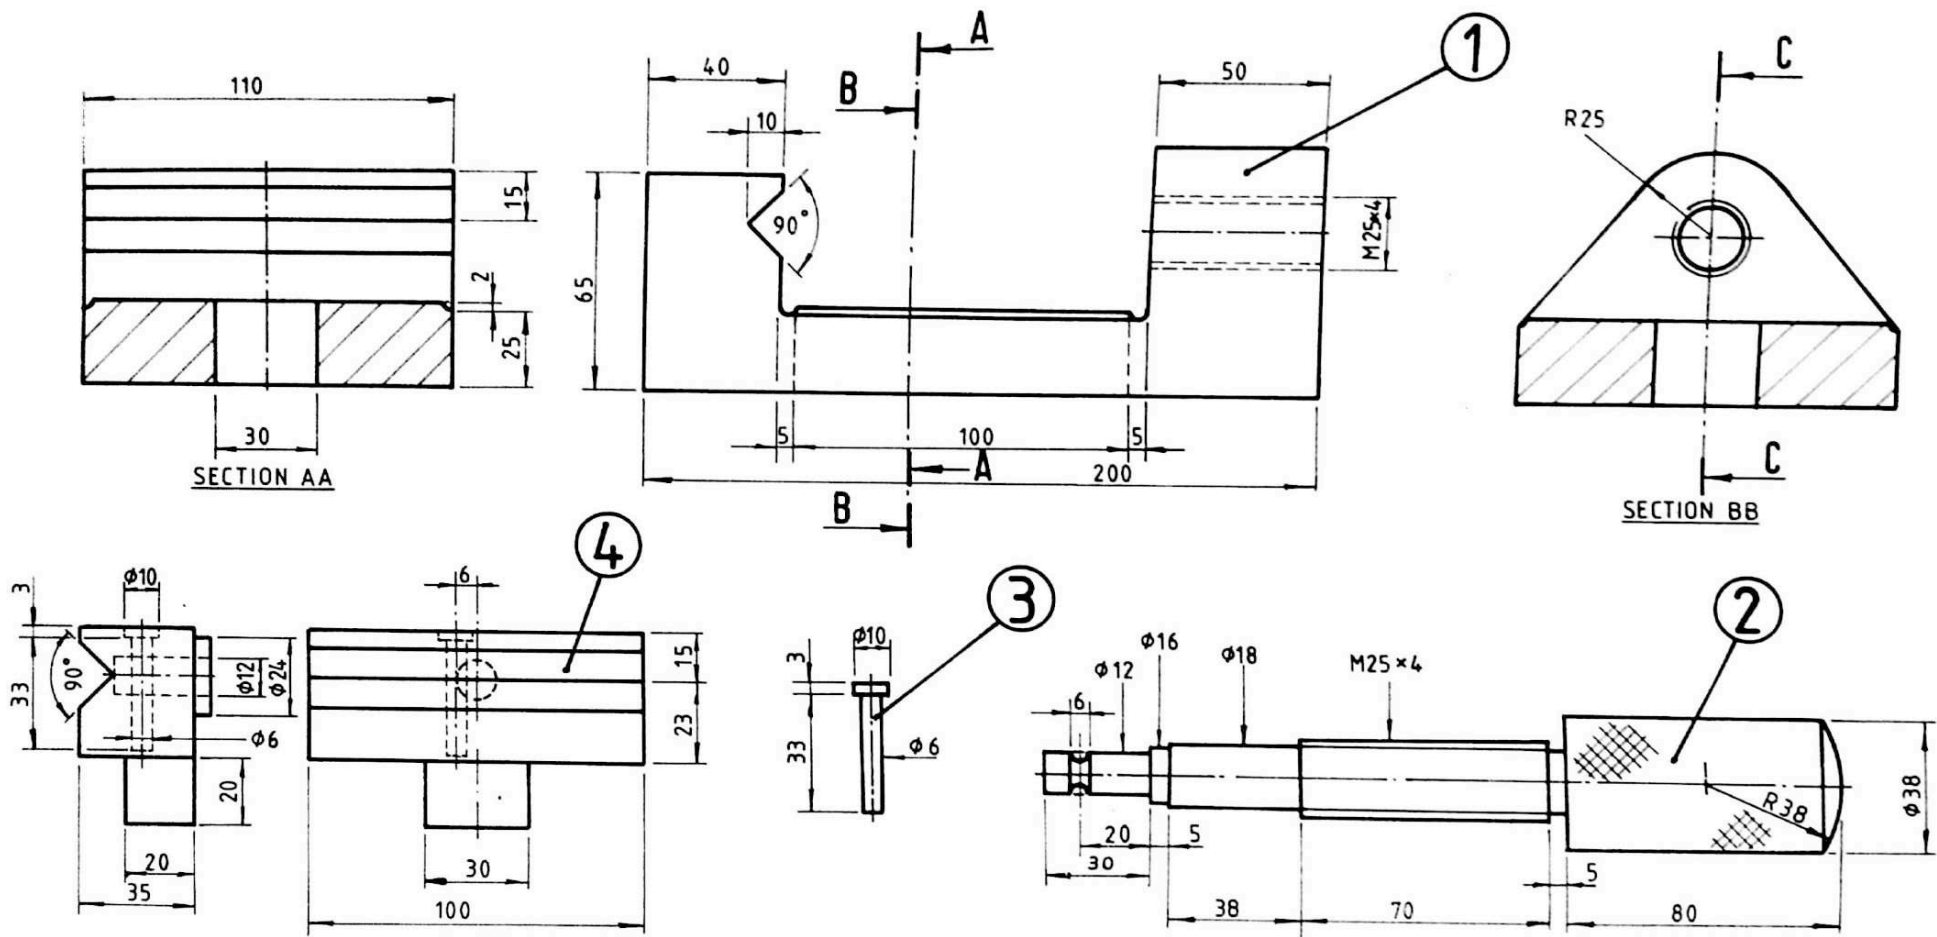

FIG. 1 FIOR 1
1. Details of a MACHINE VICE are given in Fig. 1 with a parts list tabulated below.